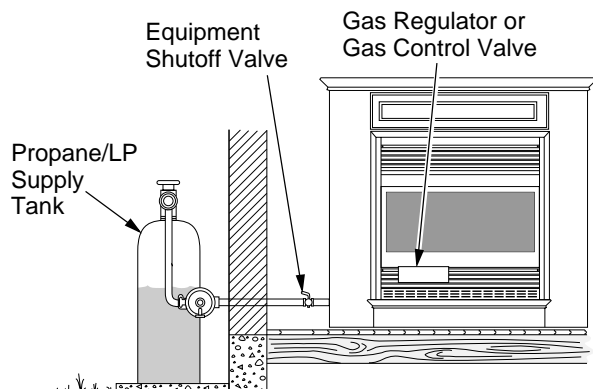

Figure 34 - Checking Gas Joints (Propane/LP Only)
3. Check all joints from gas meter to equipment shutoff valve for natural gas or propane/LP supply to equipment shutoff valve for propane/LP (see Figures 34 or 35). Apply noncorrosive leak detection fluid to all joints. Bubbles forming show a leak.
4. Check all joints from equipment shutoff valve to gas regulator (Thermostat-Controlled Models), or to gas control valve (Remote-Ready Models) (see Figures 34 or 35). Apply noncorrosive leak detection fluid to all joints. Bubbles forming show a leak.